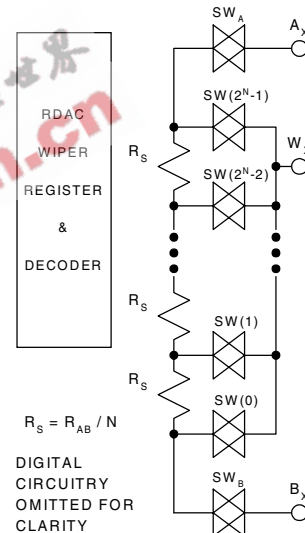

Figure 3. Equivalent RDAC structure
The actual structure of the RDAC is designed to emulate the performance of a mechanical potentiometer. The RDAC contains a string of connected resistor segments, with an array of analog switches that act as the wiper connection to several points along the resistor array. The number of points is the resolution of the device. For example, the AD5232 has 256 connection points allowing it to provide better than 0.5% setability resolution. Figure 3 provides an equivalent diagram of the connections between the three terminals that make up one channel of the RDAC. The SW_A and SW_B will always be ON while one of the switches SW(0) to SW(2^N-1) will be ON one at a time depending upon the resistance step decoded from the Data Bits. Note there are two 50 ohm wiper resistances, R_W. The resistance contributed by R_W must be accounted for in the output resistance. At terminals A-to-wiper, R_W is the sum of the resistances of SW_A and SW_X. Similarly, R_W is the sum of the resistances SW_B and SW_X at terminals B-to-Wiper.